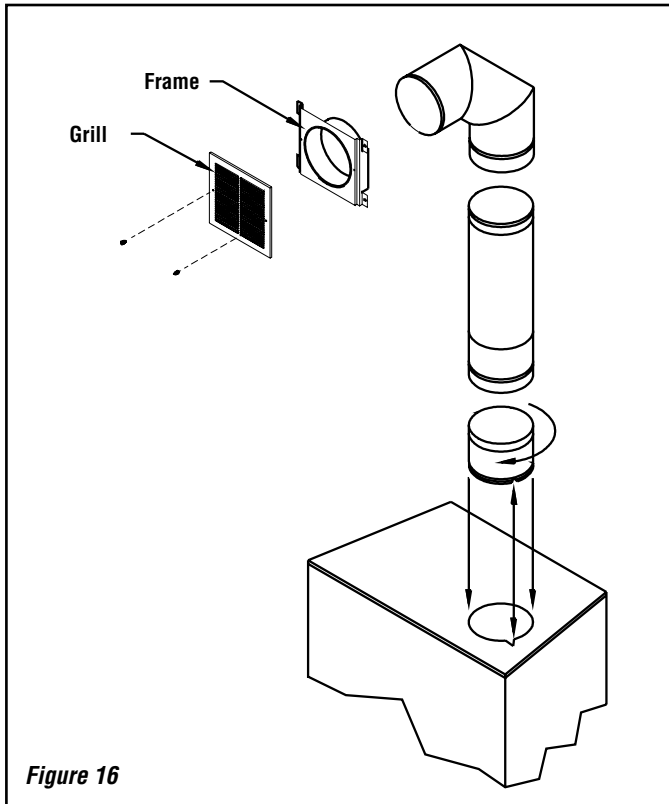

Figure 16
The gravity kit is designed for double hot air outlets and includes: (See Figure 16)
1. Remove the plates closing up the 8" dia. holes on top of the fireplace. Then, cut the insulation in order to obtain two 8" dia. openings. Fix the adaptors on the fireplace openings by turning clockwise (Figure 16).